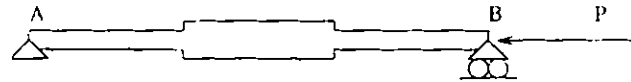

Figure 2
- (5) (f) The beam problem illustrated in Figure 2 is to be analyzed using the finite element method. What choice of grid will assist in obtaining an accurate solution? Explain your answer.